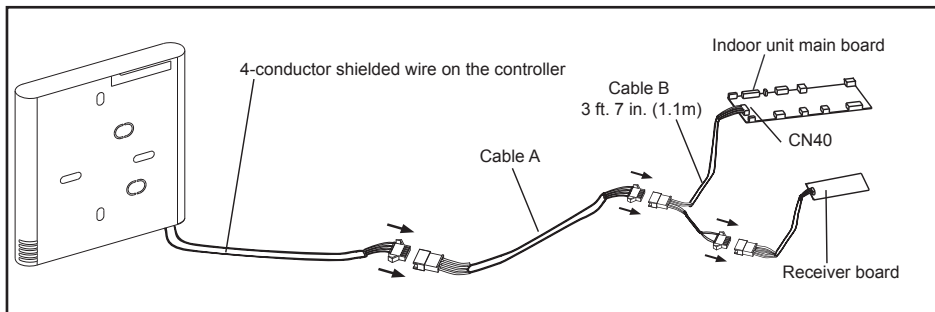

Figure 2. Wiring Connections MMDA/B, MCFA/B, M22A and M33A/B
1. Use the wiring connections illustrations (Figures 2 and 6) to connect the controller to the indoor unit. **NOTE** - Connection details for wall-mounted units differ from the other indoor unit types.